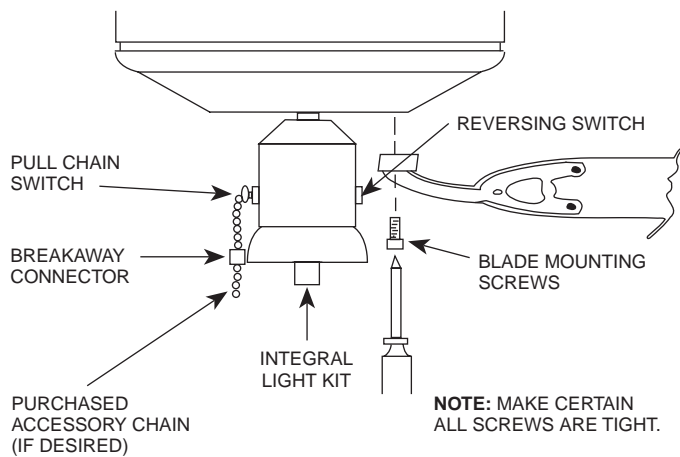

FIGURE 8
Insert a mounting screw in hole in blade bracket. Use a screwdriver to hold in place. Align blade holes with mounting holes in hub by turning screw and readjusting blade bracket until screw mates with threaded hole in hub. Do not tighten until both screws have been put in blade bracket. Repeat for all blades. See Figure 8.
B. If your fan has a switch housing with an integral light kit as shown in Figure 8, install bulb using guide for maximum wattage printed on light kit and install globe, using the 3 thumb screws provided.
B. Switch operates in this sequence: “High,” “Medium,” “Low,” “Off.” Pull chain slowly to operate. Also, release the chain slowly so as to prevent chain from flying up into blades, possibly resulting in damage to blades, or pull chain. The breakaway connector is designed to separate from the chain at a predetermined force. If this separation occurs, simply reinsert the connector. It can be re-used again and again. See Figure 8.
C. Motor is electrically reversible. When first operating fan, determine direction of air flow. If you wish to change direction, switch fan off and allow to stop. Slide reversing switch to the opposite position and switch fan back on. See Figure 8.